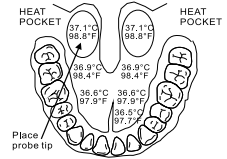

Figure 2
**Oral Use:** Place the probe well under the patient's tongue (Figure 2). Keep mouth closed while thermometer is reading.